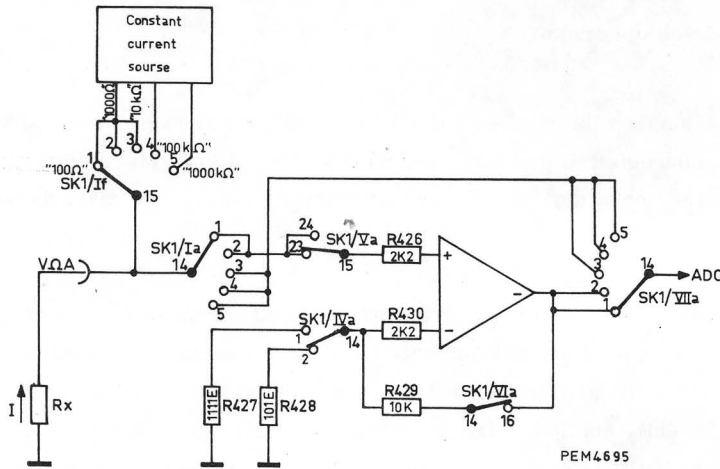

Fig. 9. Circuit for resistance measurements
3. Circuit for resistance measurements (Fig. 9)